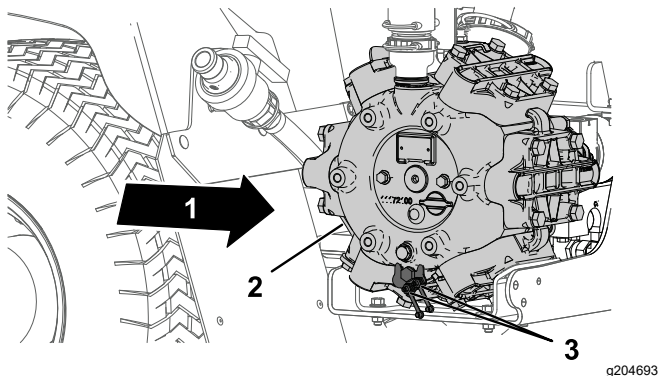

Figure 71
1. Wipe the 2 remote grease fitting clean (Figure 71).
2. Pump grease into the remote grease fitting (Figure 71).